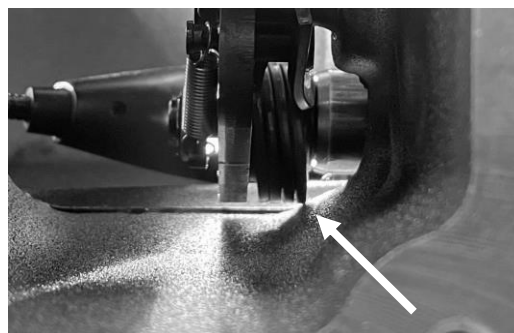

FIGURE 7 | POTENTIAL SHIFTER PAWL INTERFERENCE WITH CASE
3. If the entire retaining ring groove is NOT visible, the interior wall of the transmission case adjacent to the shifter pawl spring must be relieved. Figure 7 shows the spring contacting the case wall in the "corner" where the horizontal parting line converges with a vertical transition wall. With a Dremel or rotary file, relieve the corner to allow proper operational clearance for the shifter pawl spring. Make many light clearance reliefs and check your work by frequently installing the shifter pawl and washer to check retaining ring groove visibility as described in steps 1 and 2.